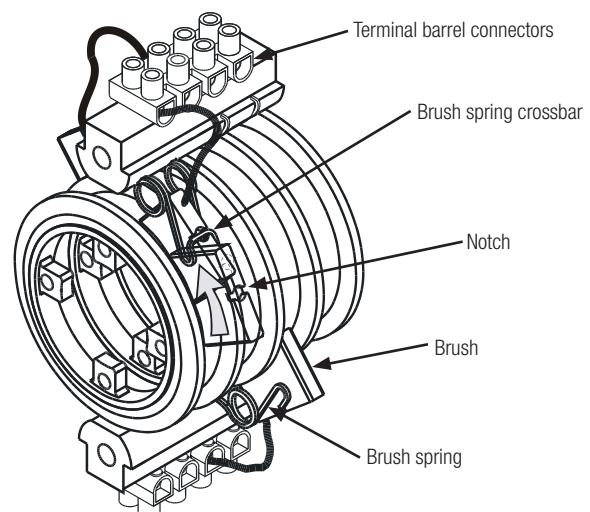

Figure 3
2.2.2 Make electrical connections to the 15, 35, and 75 amp brushes through the barrel connectors in the provided terminal strips. See Figure 3 illustration.